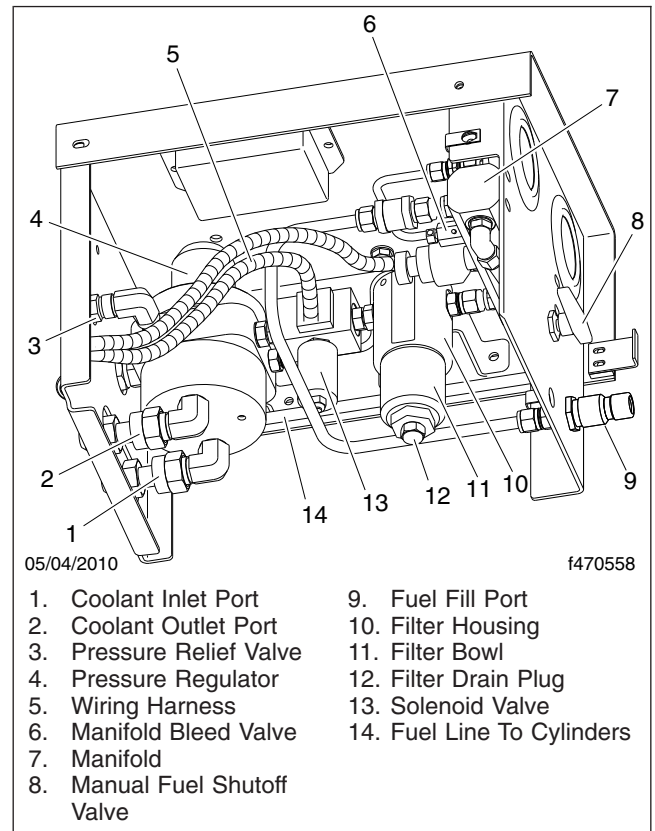

Fig. 15, CNG Fuel Panel Components
6. Slowly open the bleed valve on the manifold to relieve remaining fuel pressure within the system. See Fig. 15.